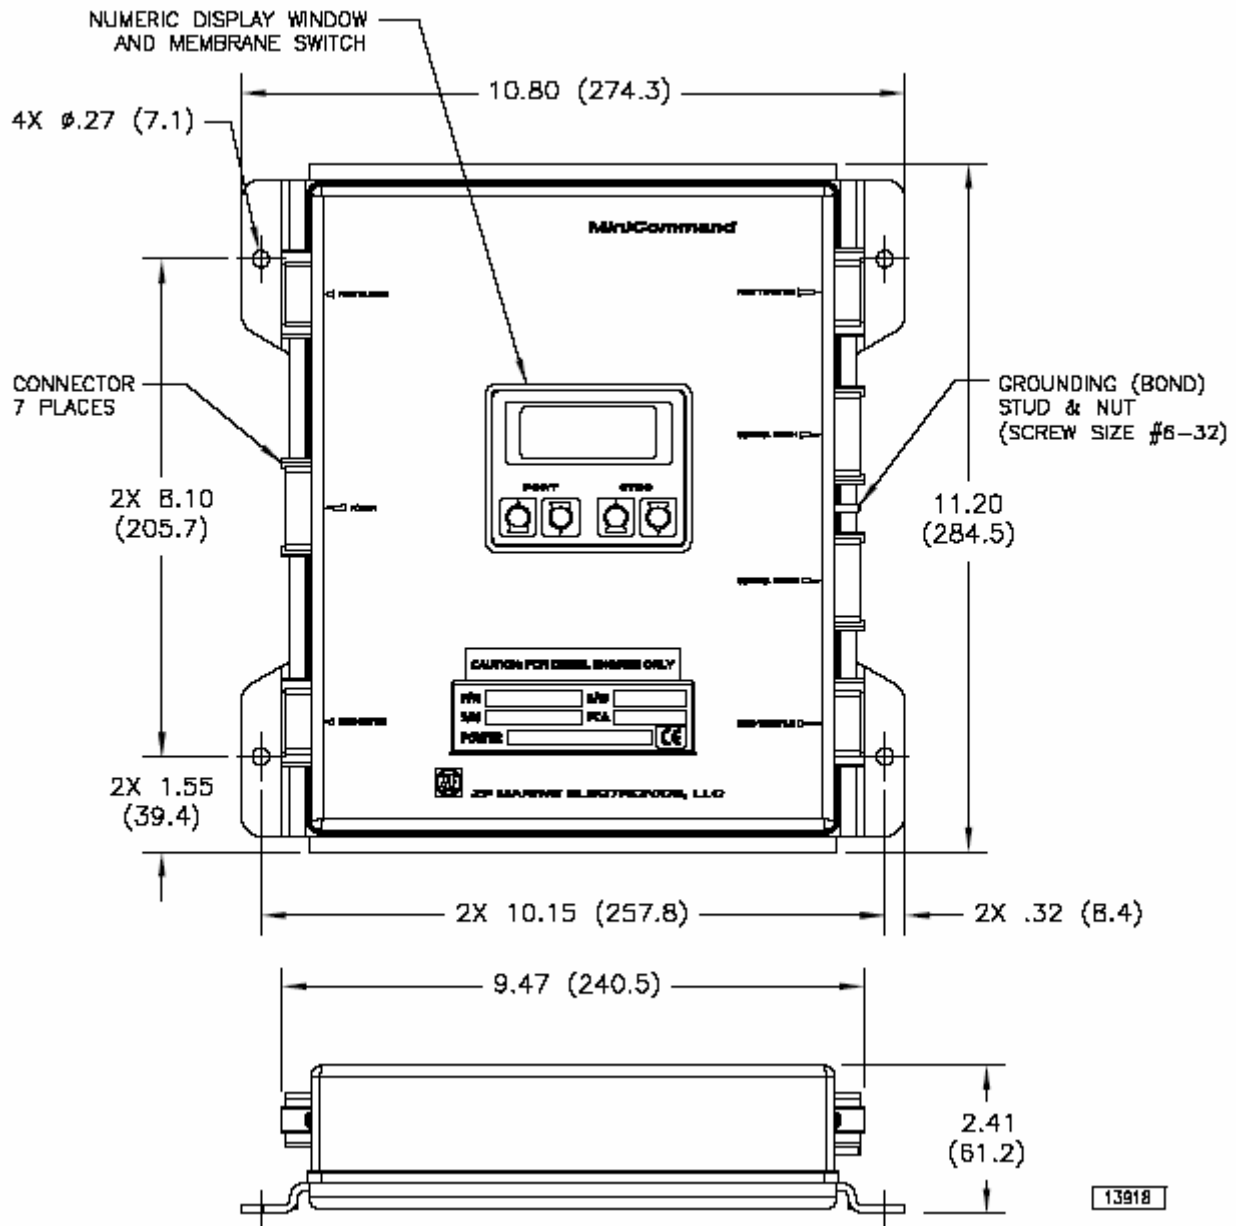

Figure 11: MiniCommand Processor Dimensions
- a. Place the Processor on the mounting surface and mark the four (4) screw holes. See Figure 11 - MiniCommand Processor Dimensions on page #35.